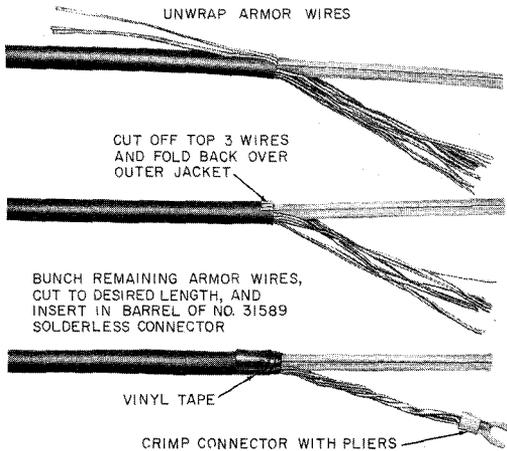

Fig. 35—Preparation of D Underground Wire (MD) for Protection or Cable Terminal Where Grounding is Required
11.06 The armor wires of D underground wire are terminated in a No. 31589 solderless connector as illustrated in Fig. 35. The spade tip of the solderless connector is placed under the pronged washer on the ground terminal post. Place the ground wire between the pronged washer and brass washer. Tighten the nut securely. Terminate the conductors on a protector as illustrated in Fig. 34 and replace protector cover.